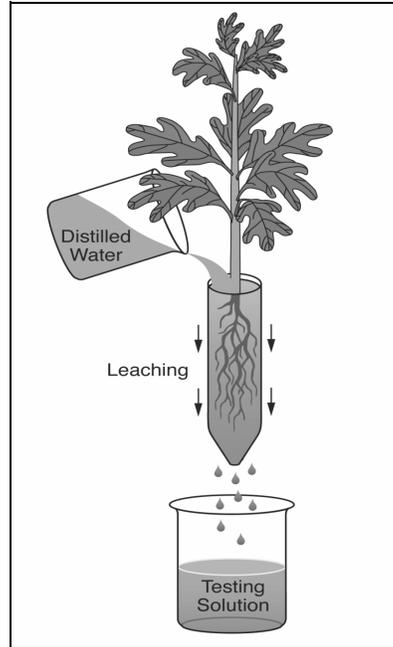

Figure 4 - The pour-through technique works for all containers except mini-plugs and large sizes, and is ideal when using controlled-release fertilizers
**Pour-Through.** This is a relatively new technique for measuring EC in containers, and works for all container types except for mini-plugs where their short height stops the media solution from freely draining. It would also be impractical for very large containers which are difficult to move (Table 1). The pour-through process consists of 2 steps (Figure 4). First, medium in a container is progressively irrigated until saturated, and then left to stand for about 2 hours. Or, just do the procedure 2 hours after irrigation. Next, pour a volume of distilled water onto the media surface to produce about 100 ml of leachate. Of course, this depends on container volume and type of growing media. Make sure and apply the water slowly enough that it doesn't run off and down the insides of the container. The idea is to have the applied water force out the solution surrounding the roots. The pour-through technique is ideal for growing media with controlled-release fertilizers because the prills are not squeezed or otherwise damaged (Table 1). Therefore, this method is ideal for outdoor growing compounds where controlled release fertilizers are the standard.